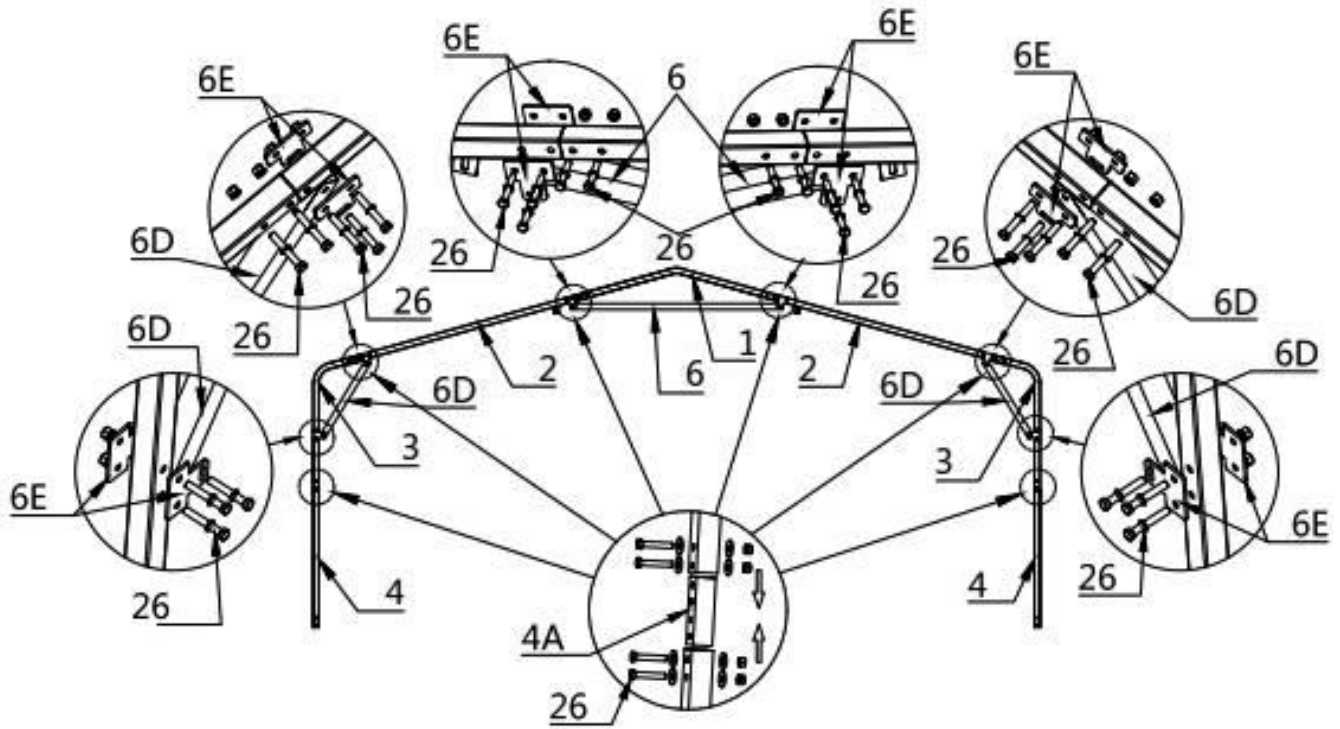

**Figure 3**
- Parts used to install (1) middle trusses in this step (refer to figure 3).
- (1) Peak arch tube (#1)
- (2) Middle rafter tube (#2)